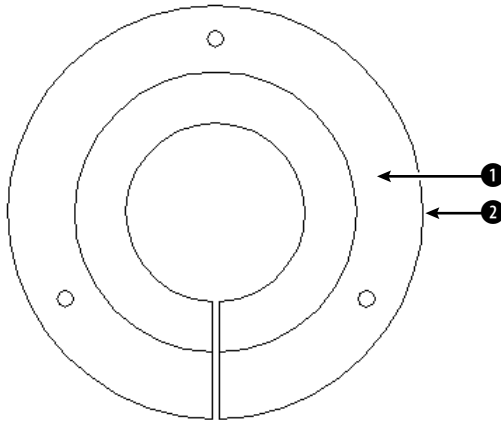

**Figure 16-15:** A bushing.
2. Save the file as `ab16-05.dwg` in your AutoCAD Bible folder. This is a bushing, shown in Figure 16-15.
5. At the Pick internal point: prompt, choose ❶ in Figure 16-15.